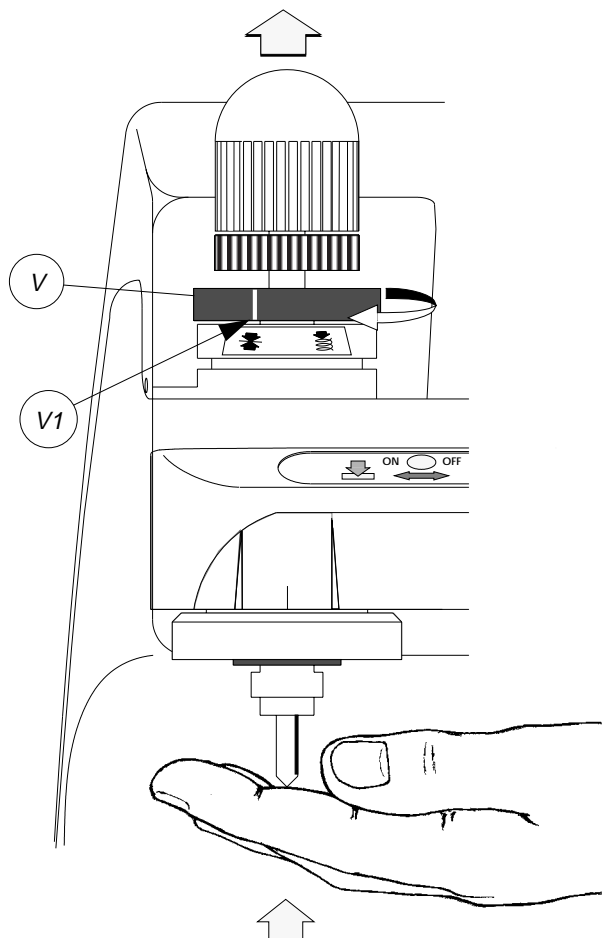

Fig. 14a
raise the tracer point assembly with one hand and in this position turn the ring nut (V) clockwise until the reference notch (V1) is aligned with the symbol for a closed spring (Fig.14a).